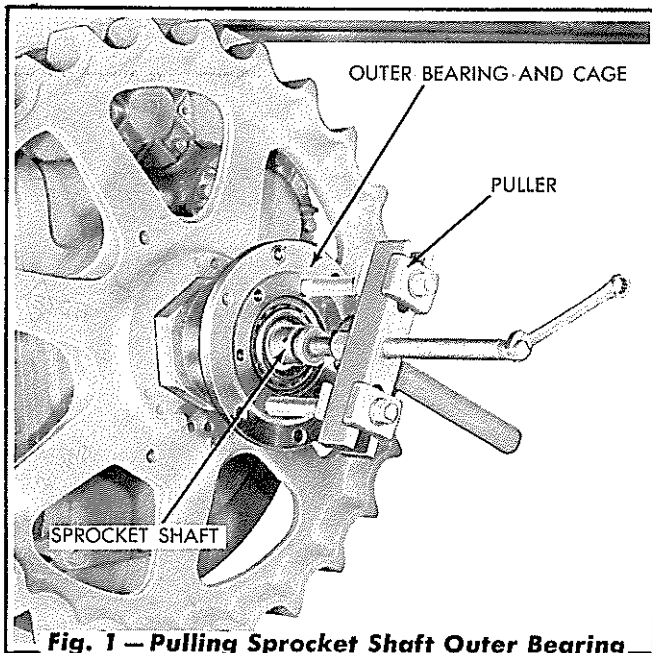

Fig. 1 — Pulling Sprocket Shaft Outer Bearing
6. Using a puller similar to the one shown in Fig. 1, pull the sprocket shaft outer bearing cage and bearing from the shaft. Use care in handling, so that the oil seal rings are not damaged or scratched.
7. Remove the two (2) capscrews attaching the track sprocket retaining nut lock, then remove the lock and sprocket retaining nut. Use care when removing the retaining nut so that the oil seal ring, cemented to the